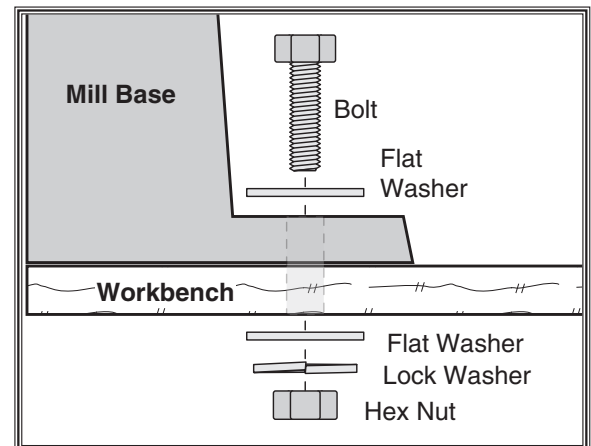

Figure 6. Example of a through mount setup.
6. Bolt the mill base to the top of the workbench (Figure 6).